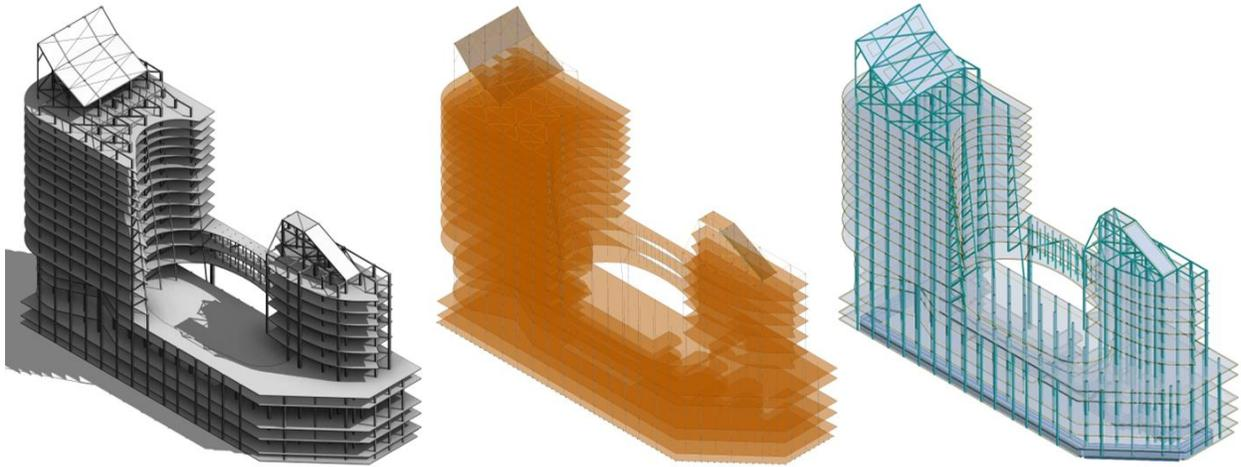

*Figure 16: Autodesk React Structure technical preview*
- The free technical preview of **Autodesk React Structures** has reached its fourth release (TP4). This fast, intuitive modeler is designed to be easy-to-use and tightly integrates with Dynamo and Revit. React Structures is built on the foundation of RSA, but with a new and modern user interface that is well-aligned with the Autodesk portfolio. See Fig. 16 and try React Structures at <http://react.autodesk.com/>.